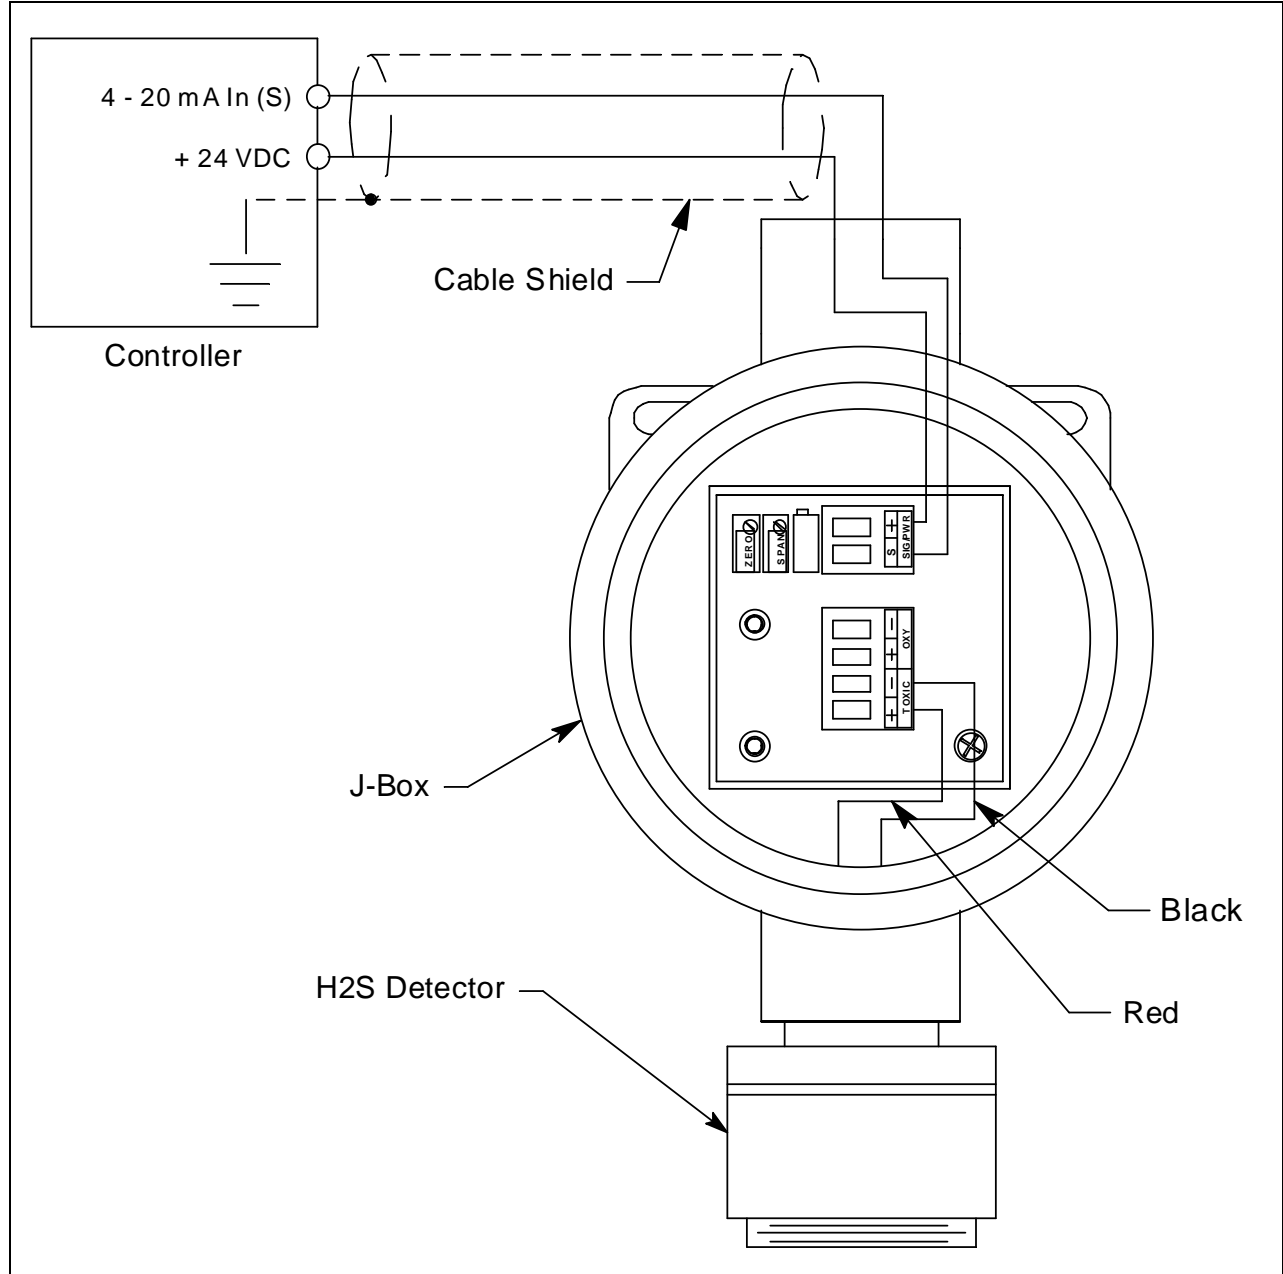

Figure 5: Wiring the H₂S Transmitter to a Controller
4. The detector leads are factory wired. Verify that the detector leads are wired to the amplifier's detector terminal strip as shown in Figure 5.
7. Pull out the controller terminal strip and connect the two wires to the terminal strip as follows (see Figure 5).
11. Connect the wires to the applicable detector/transmitter terminal strip at the controller as shown in Figure 5.
8. Connect the detector leads to the appropriate detector terminal strip terminals. Connect the red wire to the terminal labeled TOXIC + and the black wire to the terminal labeled TOXIC -. See Figure 5 for the detector wiring connections to the amplifier.
9. Install the detector and controller terminals strips into their sockets on the new amplifier as shown in Figure 5. If controller leads or detector leads were removed during this procedure, refer to Figure 5 for the detector and amplifier connections.